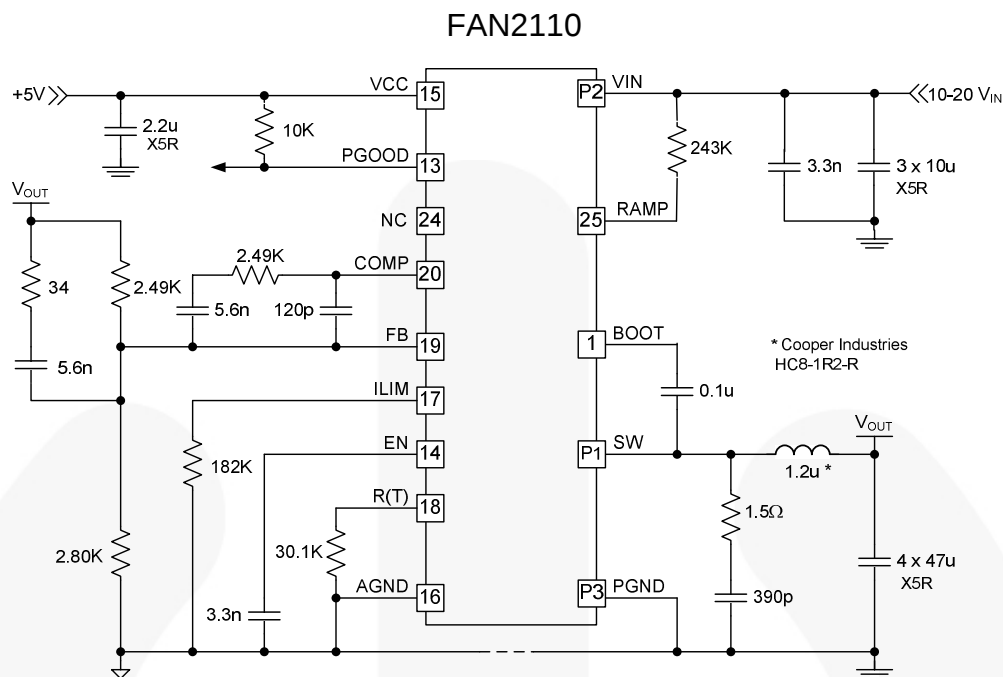

Figure 10. Application Circuit: 1.5V_{OUT}, 10A, 500KHz (10V-20V_{IN})
Typical operating characteristics using the circuit in Figure 10. $V_{IN}=12V$, $V_{CC}=5V$, $T_A=25^\circ C$, unless otherwise specified.
4. Circuit values for this configuration change in Figure 10.
Typical operating characteristics using the circuit in Figure 10. $V_{IN}=12V$, $V_{CC}=5V$, $T_A=25^\circ C$ unless otherwise specified.
5. Circuit values for this configuration change in Figure 10.
Typical operating characteristics using the circuit in Figure 10. $V_{IN}=12V$, $V_{CC}=5V$, $T_A=25^{\circ}C$ unless otherwise specified.